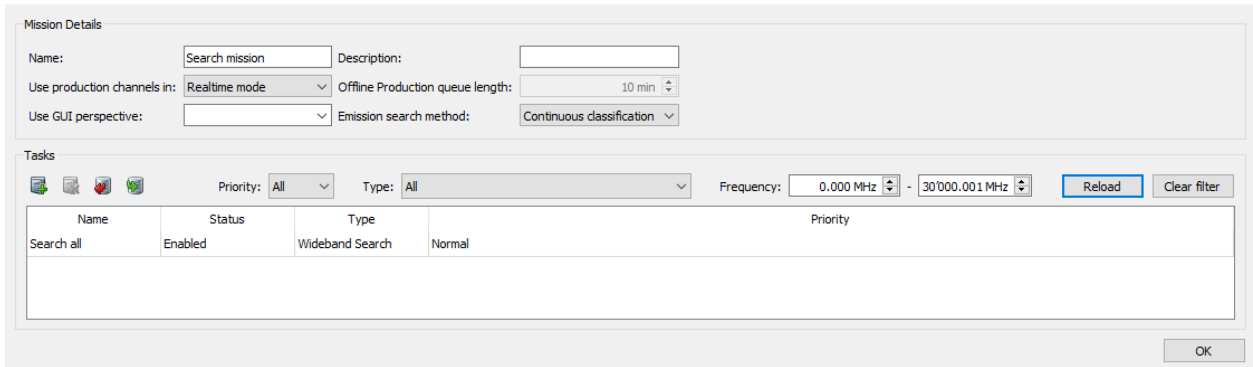

Figure 110: Edit Mission Window - Mission Details
- If a GUI perspective was defined for this mission, it will be applied as soon as the mission is activated. If the mission is deactivated, the GUI perspective will be restored to the state before activating the mission. See also Figure 110 and Table 37.